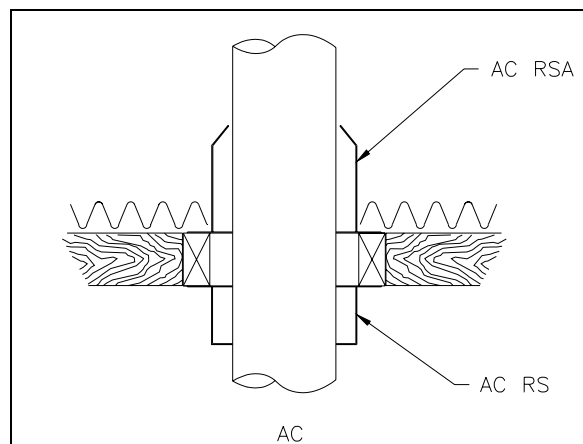

Figure 23
2. From below, install a firestop in each ceiling/floor separation through which the chimney will pass. At the attic level, install an attic radiation shield from above (figure 23).
5. From below, install a firestop. (see figure 23).